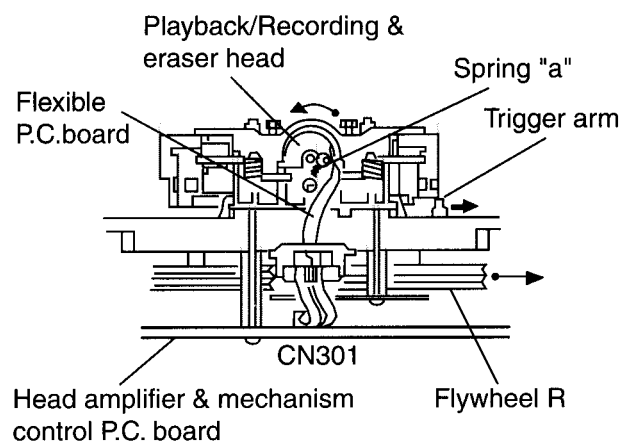
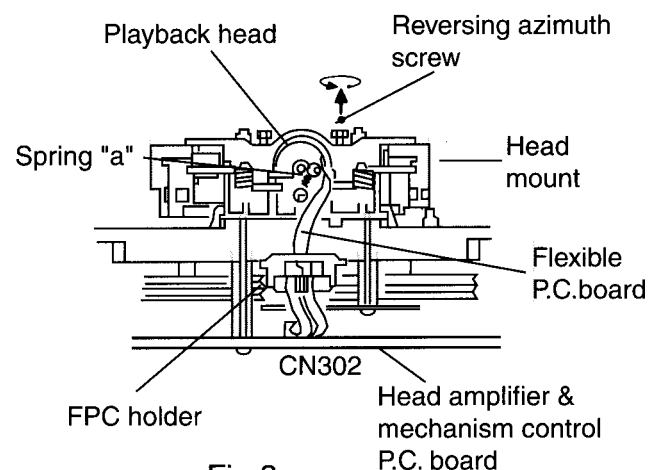

Fig.2 (Mechanism A side)
Fig.3 (Mechanism B side)
2. When the flywheel R is rotated in counterclockwise direction, the playback head will be turned in counterclockwise direction from the position in Fig.2 to that in Fig.3.
● Reassembling the playback, recording and eraser heads (See Fig.2,3)
1. Reassemble the playback head from the front of the head mount to the position as shown in Fig.3.
4. Attach the flexible P.C.board to the chassis base, and fix it with the FPC holder as shown in Fig.3.